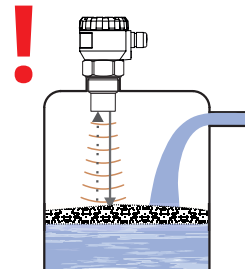

Fig. 9: Foam on the surface
- During filling, mixing and other processes, **foam** can arise on the surface level of the measured liquid. The foam considerably absorbs the ultrasonic signal which might cause malfunction of the level meter (Fig. 9). For such cases, it is necessary to set up "SENSITIVITY" mode to "high" or contact the manufacturer if needed. In case of a thin layer of foam, it is also possible to use the directional horn for improving receipt of the reflected echo.